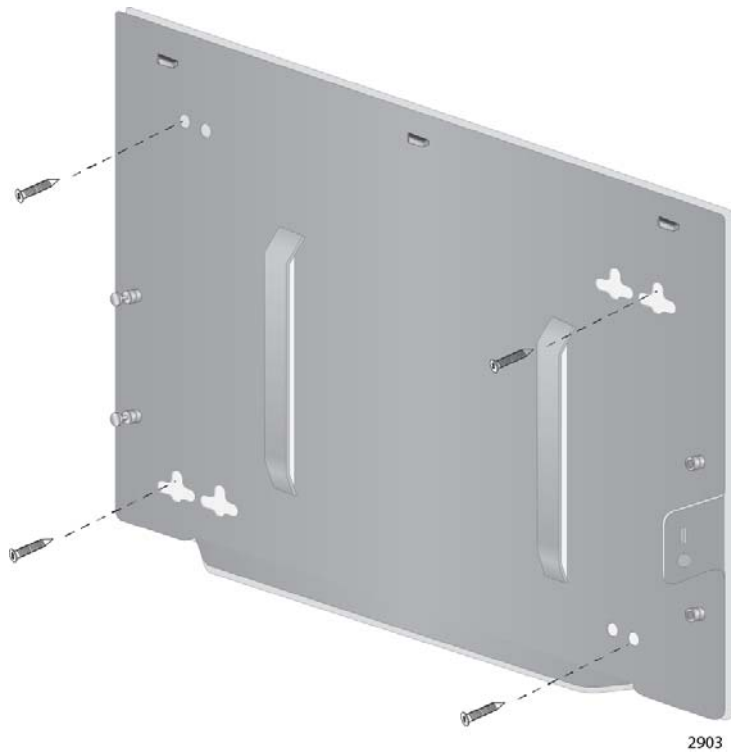

Figure 18. Attaching the Bottom Panel to the Wall or Ceiling
4. Have someone hold the panel at the selected wall or ceiling location while you secure it to with four self-tapping screws (not provided with the access point). Refer to Figure 18.